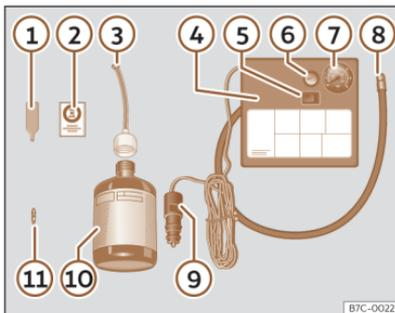

Fig. 204 Standard display: contents of the anti-puncture kit.
The anti-puncture kit is located underneath the floor covering in the luggage compartment. Includes the following components >>> **Fig. 204:**
- Unscrew the tyre valve cap and insert. Use the device >>> **Fig. 204** ① to remove the valve cap. Place it on a clean surface.
- Shake the tyre sealant bottle vigorously >>> **Fig. 204** ⑩.
- Screw the tyre inflation hose >>> **Fig. 204** ③ into the tyre sealant bottle. The bottle's seal will break automatically.
- Remove the filler cap >>> **Fig. 204** ③ and screw the open end of the tube into the tyre valve.
- Replace the howitzer with the device >>> **Fig. 204** ① onto the tyre valve.
- Screw the tyre inflation tube of the compressor >>> **Fig. 204** ⑧ on the tyre valve.
- Check that the air evacuation screw is closed >>> **Fig. 204** ⑥.
- Attach the connector >>> **Fig. 204** ⑨ to the vehicle's 12 volt power outlet >>> page 213.
- Switch on the air compressor with ON/OFF switch >>> **Fig. 204** ⑤.
- Attach the sticker >>> Fig. 204 ② to the instrument panel display, within the driver's field of vision.
Screw in the inflator tube >>> Fig. 204 ⑧ again and check the pressure on the gauge ⑦.